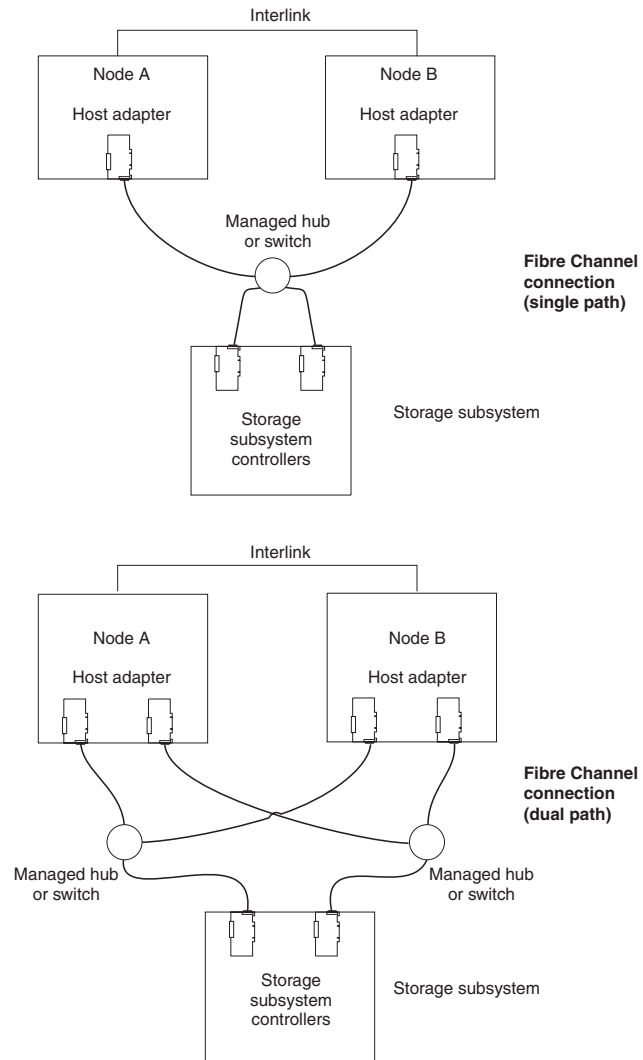

Figure 19. Installing the storage subsystem on a Fibre Channel network
- You can install two host adapters in each node to run two cables from each node to both controllers in a storage subsystem. For example, if you are using single-channel host adapters and want the dual-path configuration, you must install two host adapters in each node. Figure 19 on page 42 shows Fibre Channel single- and dual-path connection examples.